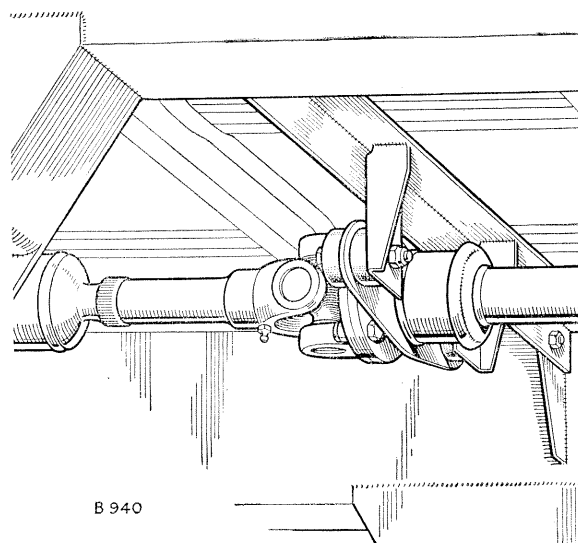

Fig. T-7—
3. **109 models only.** Secure the cross-member intermediate bearing support to the brackets welded to the chassis side members, using the bolts, spring washers and nuts provided. (Fig. T-7.)